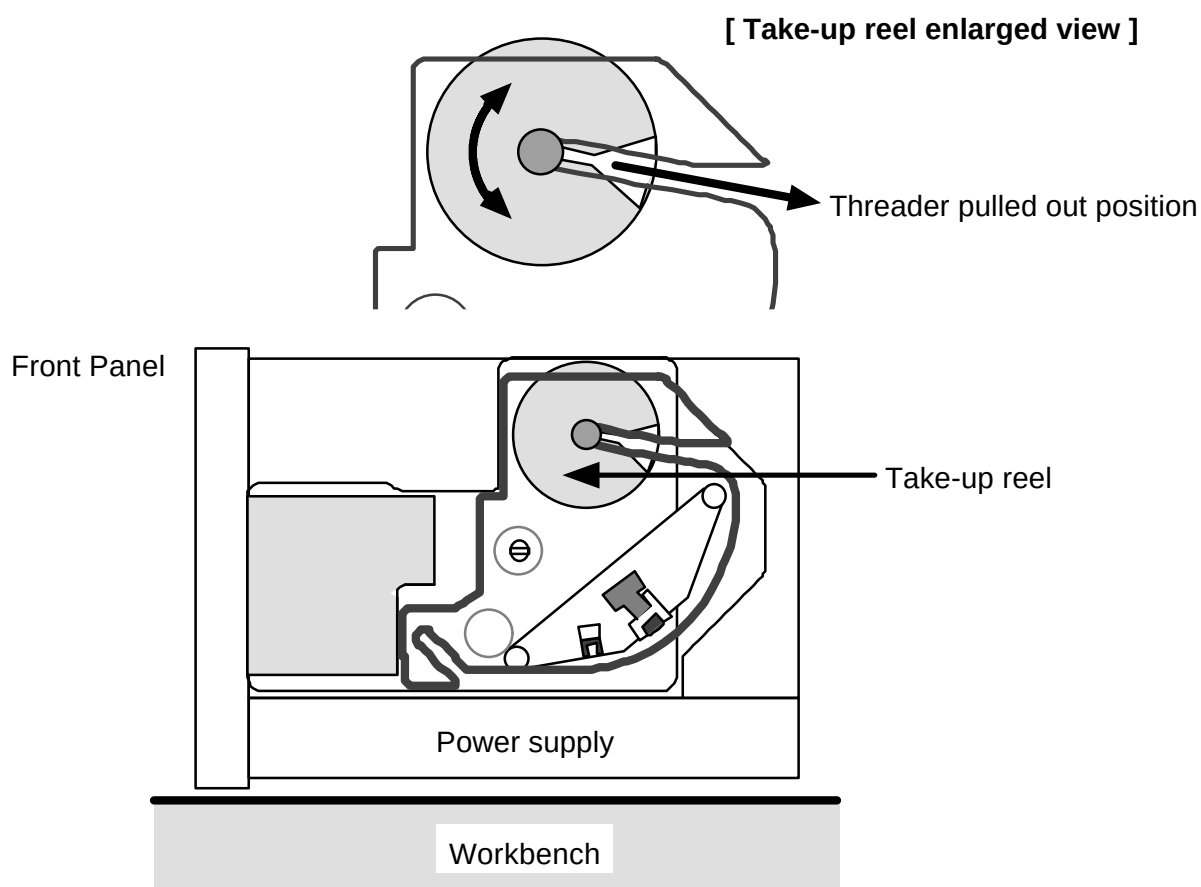

Figure 6-13 Take-up Reel
- 1) Always turn off the power. When the tape is loaded in the tape path, place the drive so the power supply is in the bottom position. (Refer to Figure 6-13.) Continue the following operation if the tape does not fall down from the tape path. When the tape is not loaded in the tape path, the drive can be placed in the regular position or position where the power supply is in the bottom.
- 2) Lightly touch the take-up reel shown in Figure 6-13 with your hand and rotate it slowly until the position where the leader block (threader) can be pulled out. Rotate the take-up reel slowly and carefully so the tape does not fall down from the tape path at this time.